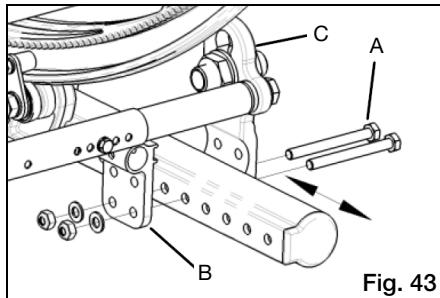

Fig. 43
- a. Using two 13mm wrenches, remove axle plate screws (Fig. 43:A) from both sides of chair, noting orientation of anti-tip receiver (Fig. 43:B).
- b. Slide axle plates (Fig. 43:C) simultaneously forward or rearward to desired location.
WARNING: Increasing the seat to back angle will change the center of gravity of the wheelchair. Make sure your axle position is adjusted properly in order to maintain constant stability of the wheelchair. Reference instruction for axle plate position at top of page and Fig. 43.